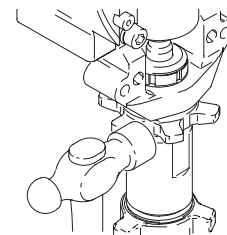

Fig. 20
3. Fig. 20. Screw jam nut down onto pump until nut stops. Screw pump up into bearing housing until it is stopped by jam nut. Back off pump and jam nut to align pump outlet to back. Tighten jam nut by hand, then tap 1/8 to 1/4 turn with a 20 oz hammer to approximately  $75 \pm 5$  ft-lb (102 N·m).